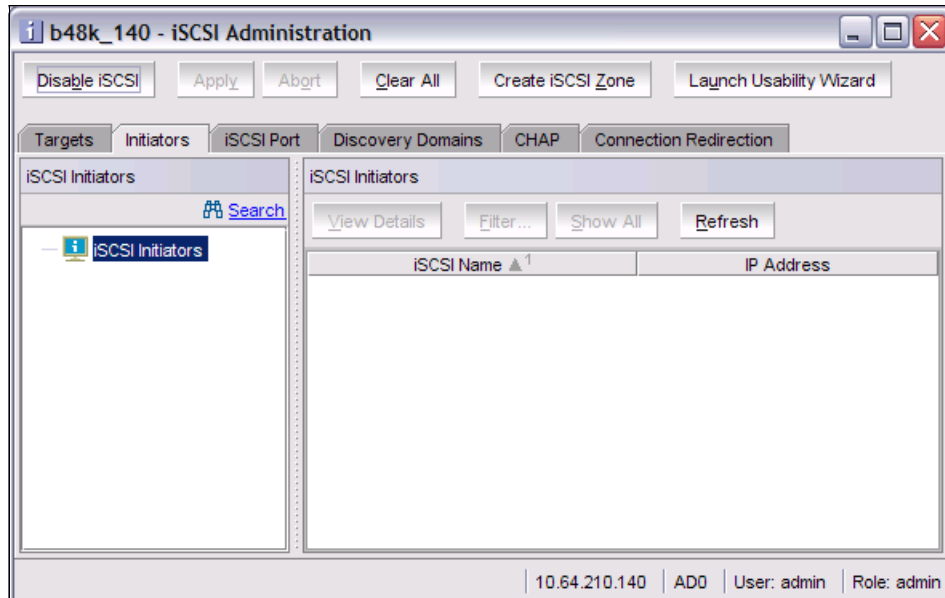

Figure 11-43 Empty iSCSI initiators view
1. Confirm that no iSCSI initiators are logged into the iSCSI gateway service. Do this from the Initiators tab in the main administration window (Figure 11-43).